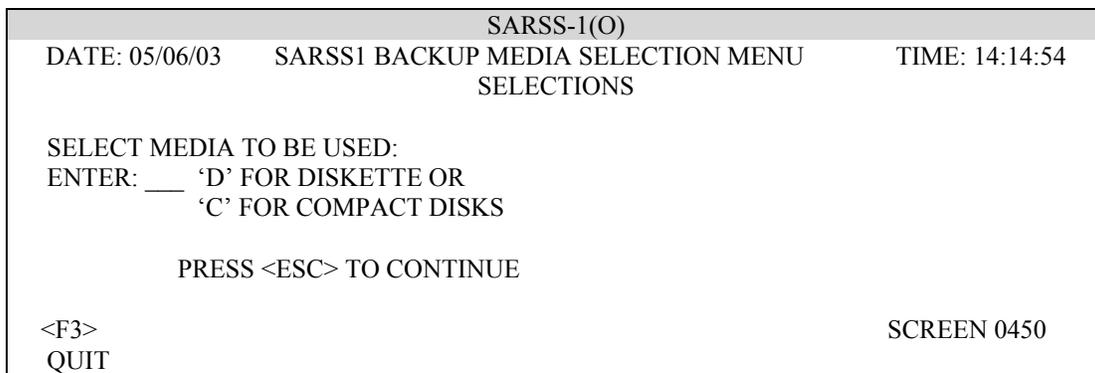

Figure 4-9 Backup Media Selection Screen
4.3 Back-up (BKUP) Changes. The BKUP process has been changed to accommodate the replacement of the 4mm tape drive with a CD-RW drive. The valid media types for backup are now diskettes and CD-ROMS. The Media Selection screen (see Figure 4-9) has been changed to use ‘C’ for compact Disks (CDs) as opposed to ‘T’ for tape streamer. There are new screens that will display the progress of the backup to the CD-ROM. You may use CD-RW CD-ROMS that have previously used. If you are going to use CD-R CD-ROMS, they must be new blank CD-ROMS or you will receive an error and will be prompted to insert a blank CD-ROM.
4.3.1 Create Backup CD-ROM. Enter ‘BKUP’ on the action line and press <ESC>. When the Media Selection screen is displayed (Figure 4-9), enter a ‘C’ and press <ESC>.